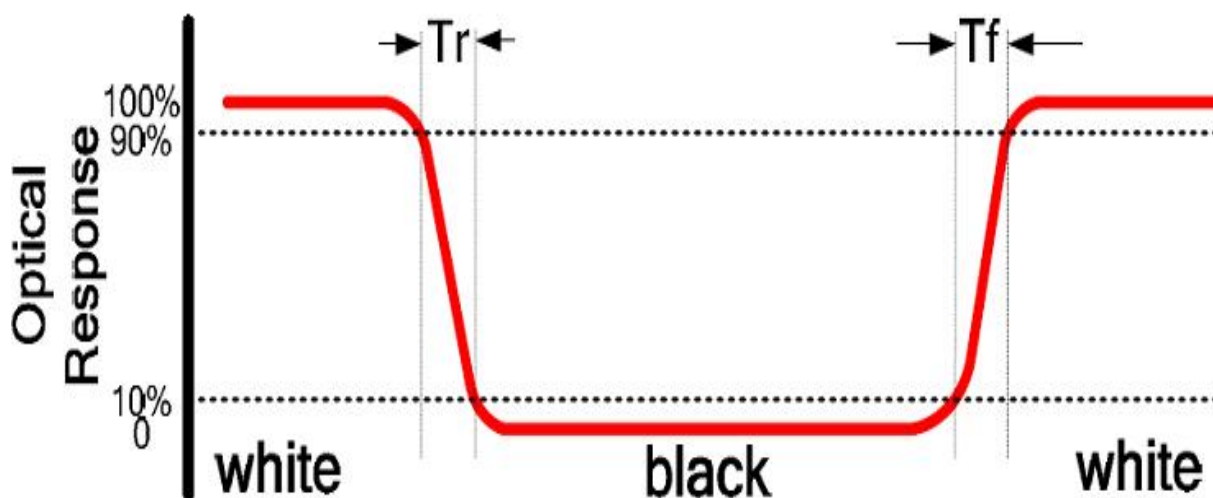

FIG2. Measuring method for Contrast ratio,surface luminance,Luminance
Note2.contrast Ratio(CR) is defined mathematically by the following formula ,For more information see FIG2.
module,the specific value of contrast ratio is 10.For monochrome and color stn module,the specific value of contrast ratio is2.The angles are determined for the horizontal or x axis and the vertical or y axis with respect to the z axis which is normal to the LCD surface.For more information see FIG3 Note5. Surface luminance is the LCD surface luminance with all white pixels,For more information see FIG2.